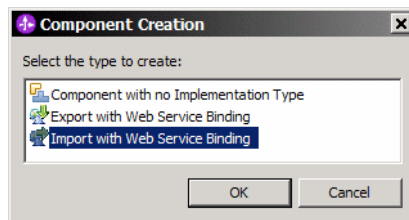

Figure 9-51 Component creation for a Web service
- ▶ In the Component Creation dialog select *Import with Web Service Binding* (Figure 9-51). Click OK.